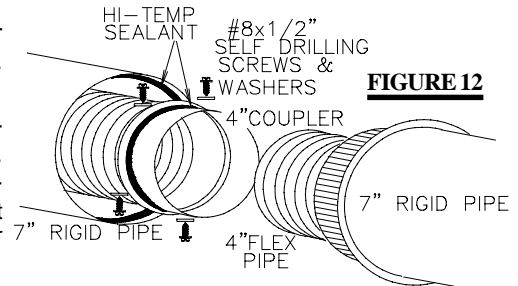

FIGURE 12
SPACERS ARE ATTACHED TO THE 4" INNER FLEX LINER AT PREDETERMINED INTERVALS TO MAINTAIN A 1-1/4" AIR GAP TO THE 7" OUTER STOVE PIPE. THESE SPACERS MUST NOT BE REMOVED. Slip a 4" diameter length of aluminum flexible liner a minimum of 2" over the inner sleeve of the air terminal. Secure to the sleeve using 3 screws. Seal the joint and screw heads using the high temperature sealant provided. FIGURE 12.
5. If more than one length of liner needs to be used to reach the stove, couple them together as illustrated in Figure 12. Seal the joints using the same procedure as described in Item 3.